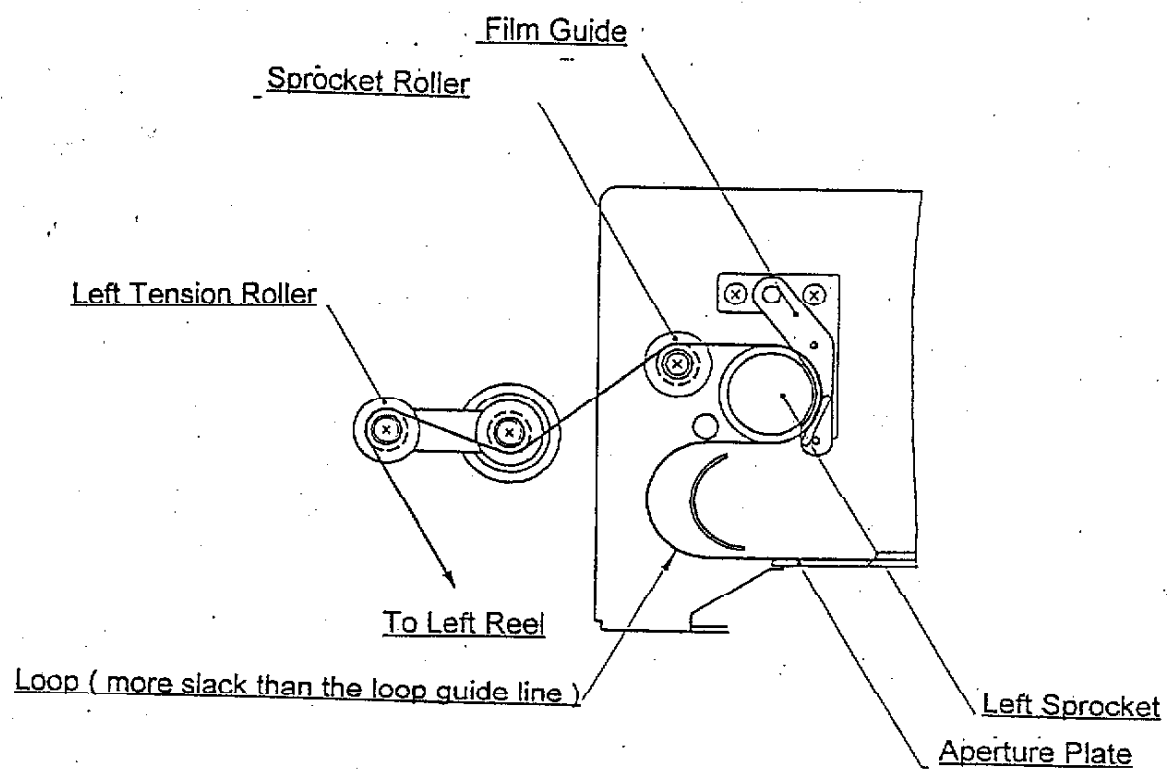

Fig. 2-4 Threading Path around Sprocket
12. Thread the film coming from the Left Sprocket between the two Left Tension Rollers and under the Movable Roller, then to the empty Reel. (Fig. 2-4)